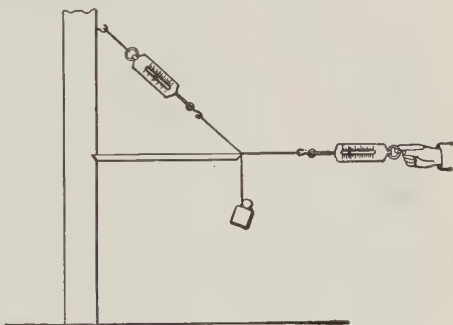

FIGURE 518.
**EXPERIMENT 136.**— Attach a 1000-gram weight to a vertical support, inserting a spring balance near the top of the cord (Figure 518). A light wooden boom beveled to fit a notch in the support is used to hold the cord away from the vertical support. The apparatus now represents somewhat the conditions in a boom derrick. Drive a small nail into the end of the boom and wind one turn of the cord around the nail. Attach a second spring balance to the cord just above the nail and pull horizontally outward until the boom falls from the notch in the post. The reading of the upper balance shows at this time the effect of the 1000-gram force exerted